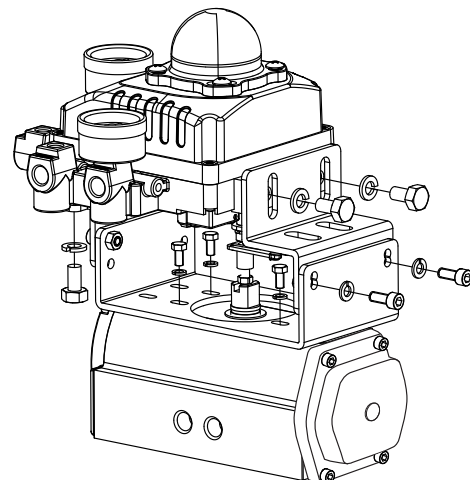

Figure 8
3. Attach the Series 6P to the bracket as shown in **Figure 8**. This sets the alignment of the main shaft and the center of the actuator stem.